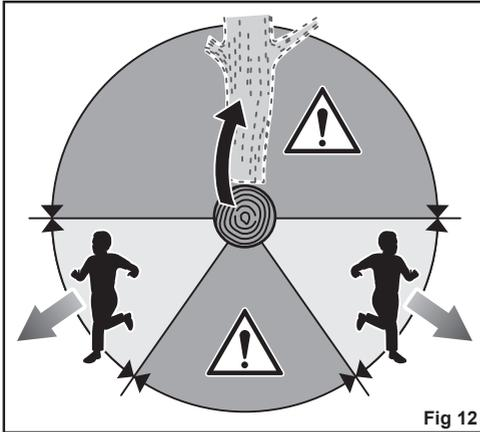

Fig 12
- Before any cuts are started, an escape path should be planned and cleared as necessary before cuts are started. The escape path should extend back and diagonally to the rear of the expected line of fall. See Fig.12.